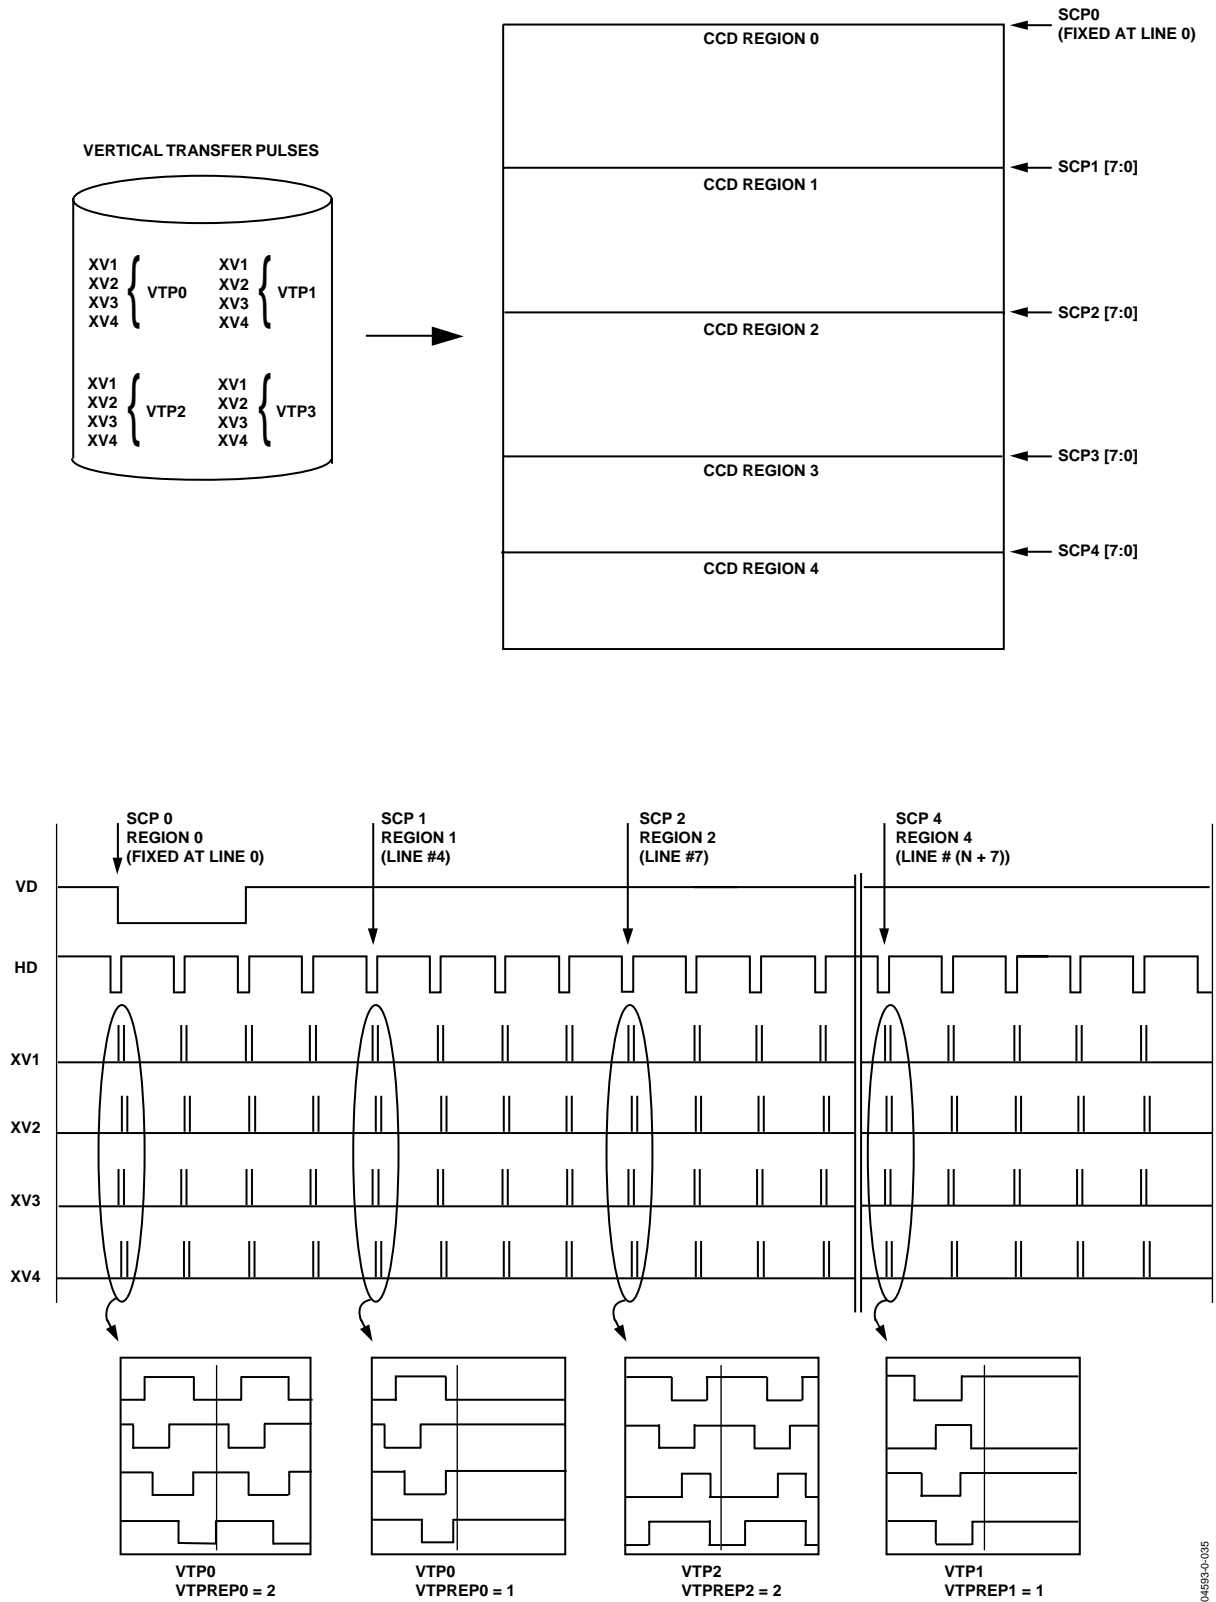
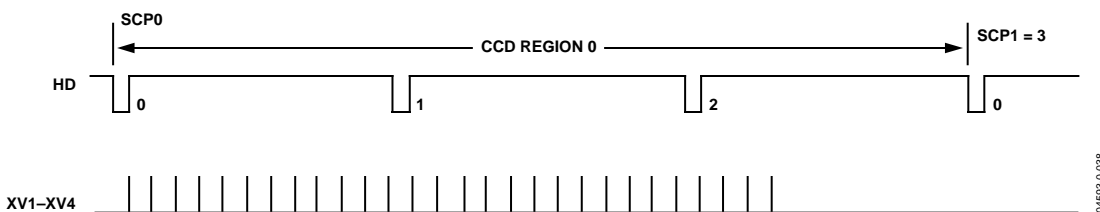
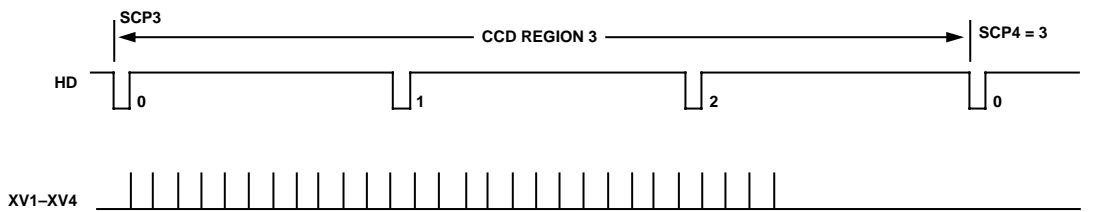

Figure 34. Steps 3 and 4: An Example of Building an Entire Field Readout by Assigning Sequences to Multiple CCD Regions
Figure 37. Sweep Mode Timing Example with SVREP_MODE = 1 and SVREP0 = 28
Figure 38. Sweep Mode Timing Example with SVREP_MODE = 2 and SVREP3 = 28
Figure 32 through Figure 34 provide an overview of how the vertical timing is generated in four basic steps.
Step 3: Output Vertical Sequences into CCD Regions (see Figure 34).
Step 4: Combining CCD Regions (see Figure 34).
The individual CCD regions are combined into a complete field readout by using sequence change position (SCP_x) pointers as described in Table 23. Figure 34 shows how each field is divided into multiple regions. This allows the user to change vertical timing during various stages of the image readout. The boundaries of each region are defined by the sequence change position (SCP). Each SCP is a 8-bit value representing the line number boundary region. A total of four SCPs allow up to five different region areas in the field to be defined. The first SCP0 is always hard-coded to line 0, and the remaining four SCPs are register programmable.
The special vertical sweep mode operation is only output in CCD Region 0 and CCD Region 3 (see Figure 34), as shown in Figure 37 and Figure 38. The SVREP_MODE register located at